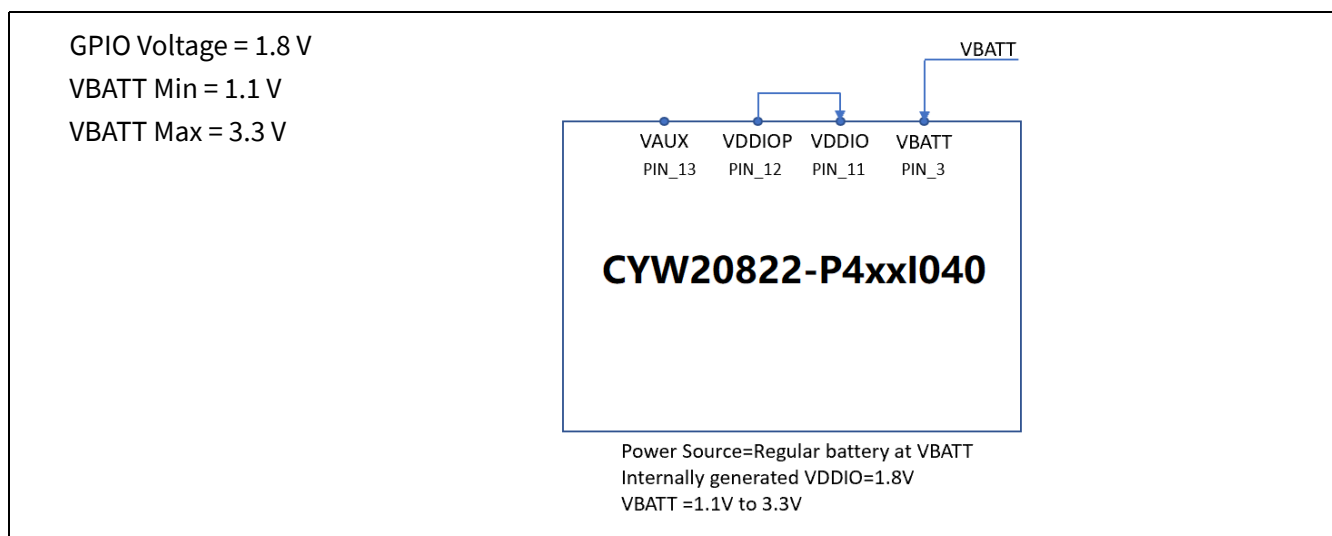

Figure 10 Regular battery, Internal I/O supply
- For applications that can use a fixed 1.8 V I/O supply for better power consumption or VBATT ≤ 1.8 V (see Figure 10).